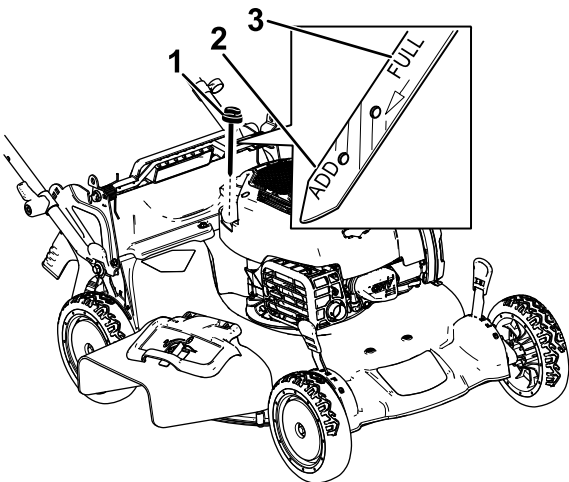

Figure 29
- 3. Remove the dipstick by rotating the cap counterclockwise and pulling it out (Figure 29).
10. Read the oil level on the dipstick (Figure 29).